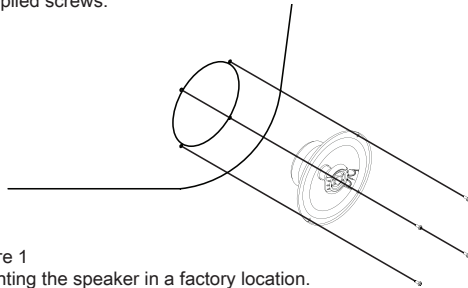
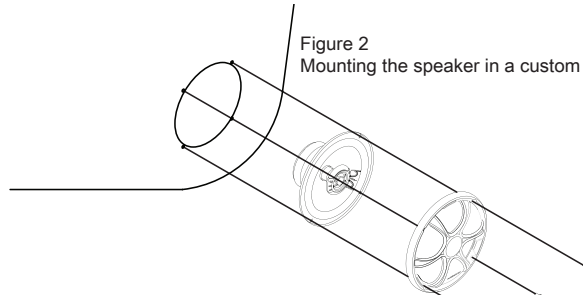

Figure 1
Figure 2
1. Many vehicles already have factory locations (Figure 1) to house the "DROP IN" feature of the RX Component speakers. If no existing locations are available or are not used, check the desired location for adequate cutout area and any depth obstructions. Make sure to allow sufficient clearance for window tracks, structural braces, trunk lid springs, etc.
Phoenix Gold has provided a foam mounting gasket. When installing your new component speakers in a factory location make sure to use the foam mounting gasket as shown in figure 1. For reverse mounted speakers place the foam gasket in front of the speaker. This will ensure an air tight seal for your RX speakers. For more custom applications, or cases where the factory grill will not be used, a high excursion protective grill has been provided. When installing your new component speakers with the provided RX grill use figure 2.